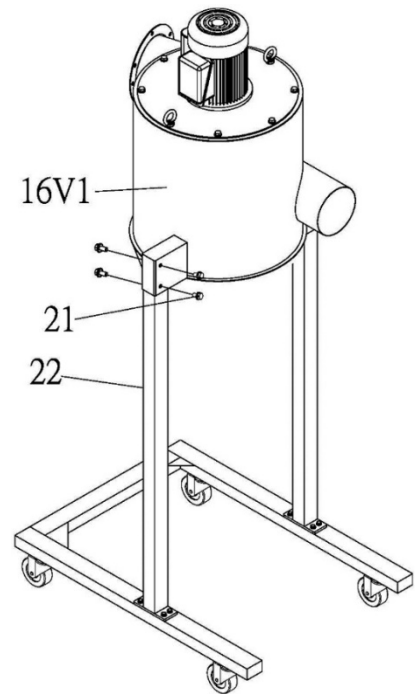

Fig. 3
- Using an assistant, lift up the main housing (NO.16V1) then place on the stand (NO.22). Using the Flange bolt Screw 5/16" x 1/2" (NO.21) to tighten together. See (FIG.3).